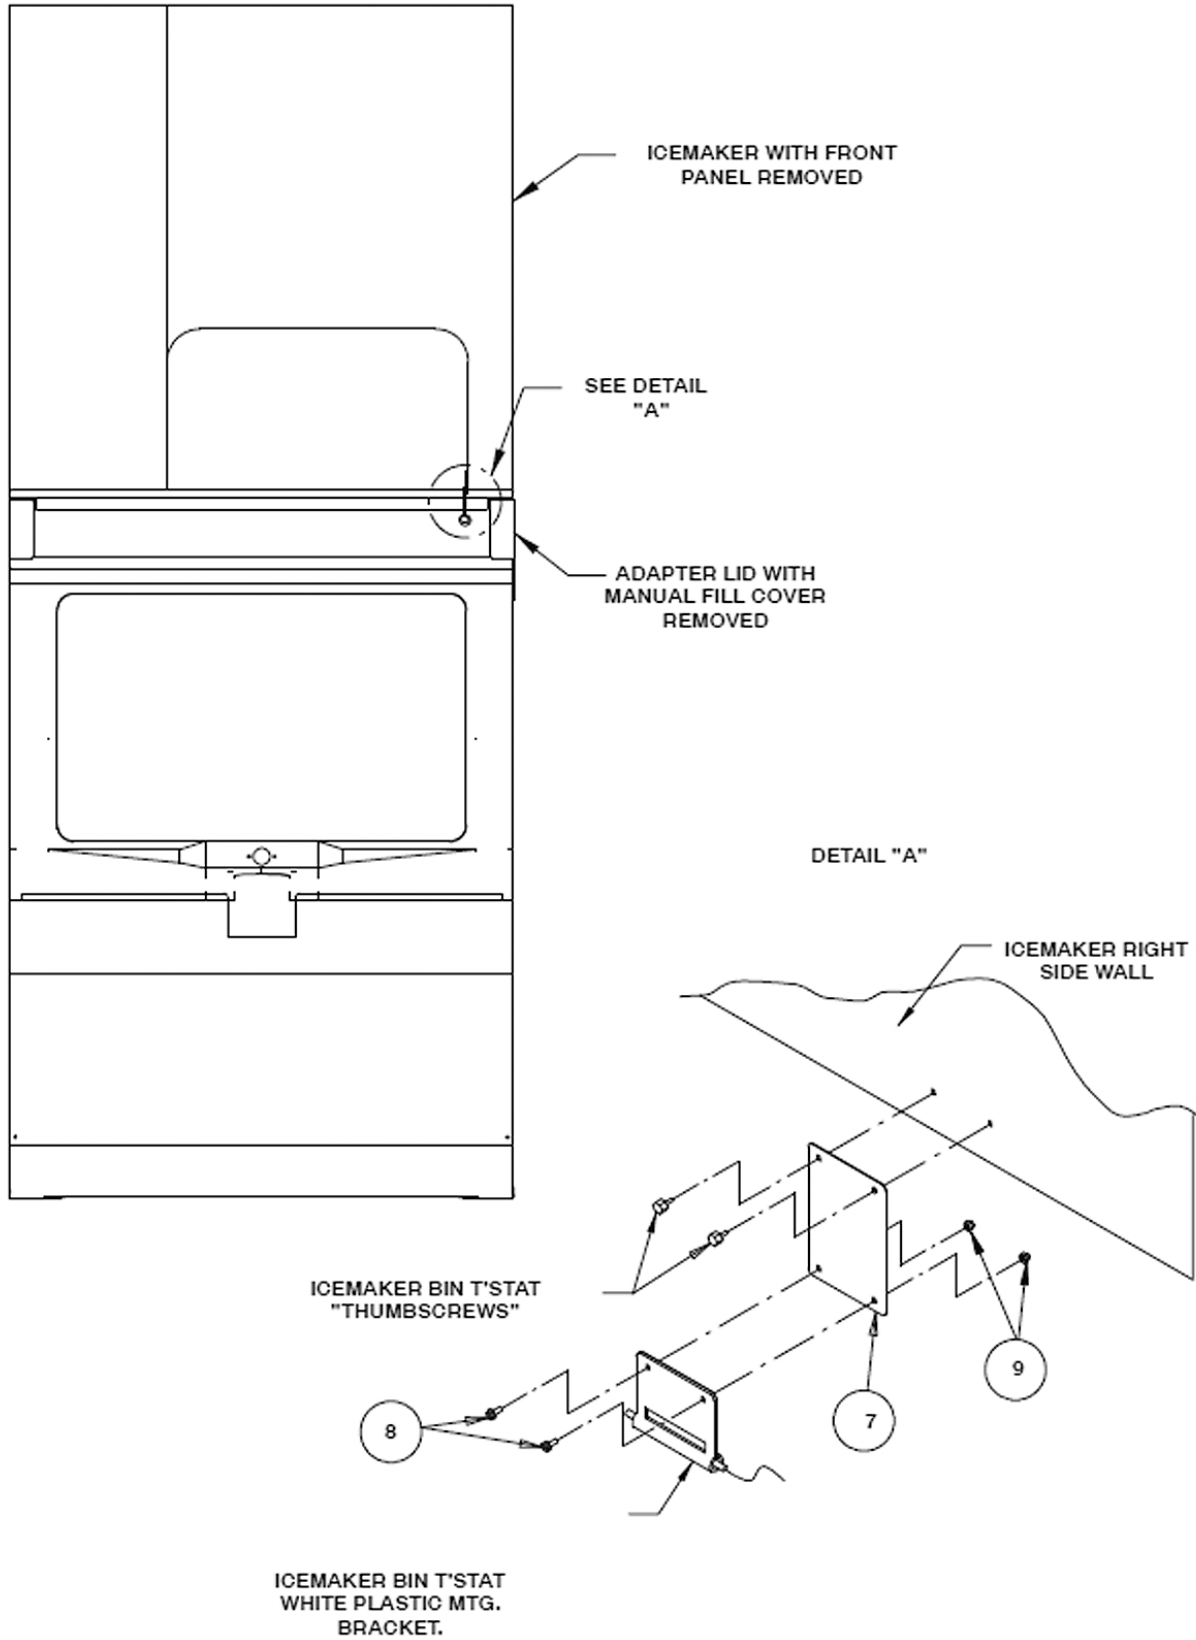

Figure 2.
- 6. **IMPORTANT: THE BIN THERMOSTAT BRACKET (ITEM 7 - See Figure 2) MUST BE INSTALLED IN ORDER TO PREVENT OVERFILLING THE ICE STORAGE BIN.**
- B. Locate the bin thermostat on the lower right side wall of the ice drop area and remove the (2) thumbscrews that hold the bin t'stat in place.
- C. Mount the bin t'stat to the bracket (item 7) provided with the kit as shown in Figure 2.
- 7. Install the caution label (item 10) on the manual fill cover (Item 2) and secure the cover to the adapter lid with the #8-32 thumbscrew.